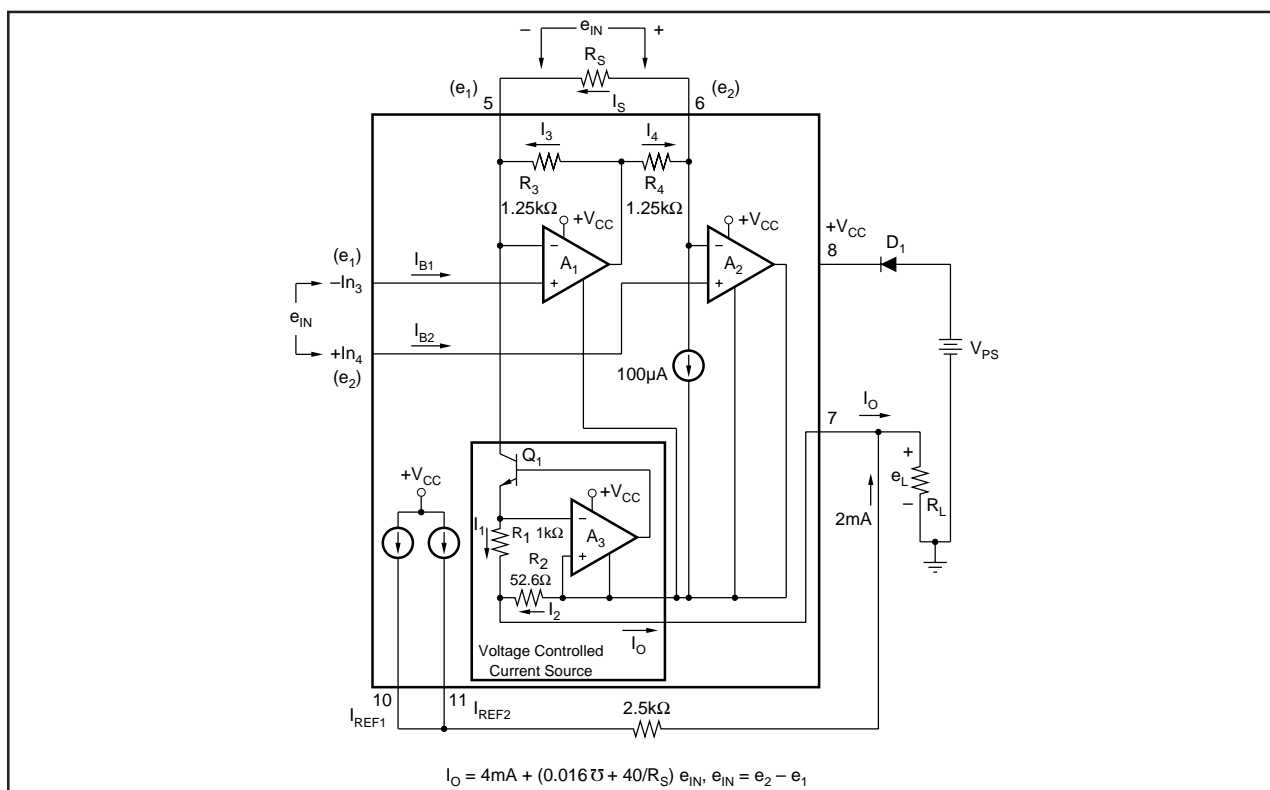

FIGURE 1. Simplified Schematic of the XTR101.
A simplified schematic of the XTR101 is shown in Figure 1. Basically the amplifiers,  $A_1$  and  $A_2$ , act as a single power supply instrumentation amplifier controlling a current source,  $A_3$  and  $Q_1$ . Operation is determined by an internal feedback loop.  $e_1$  applied to pin 3 will also appear at pin 5 and similarly  $e_2$  will appear at pin 6. Therefore the current in  $R_S$ , the span setting resistor, will be  $I_S = (e_2 - e_1)/R_S = e_{IN}/R_S$ . This current combines with the current,  $I_3$ , to form  $I_1$ . The circuit is configured such that  $I_2$  is 19 times  $I_1$ . From this point the derivation of the transfer function is straightforward but lengthy. The result is shown in Figure 1.
The basic connection of the XTR101 is shown in Figure 1. A difference voltage applied between input pins 3 and 4 will cause a current of 4-20mA to circulate in the two-wire output loop (through  $R_L$ ,  $V_{PS}$ , and  $D_1$ ). For applications requiring moderate accuracy, the XTR101 operates very cost-effectively with just its internal drive transistor. For more demanding applications (high accuracy in high gain) an external NPN transistor can be added in parallel with the internal one. This keeps the heat out of the XTR101 package
7. It is recommended that a reverse polarity protection diode ( $D_1$  in Figure 1) be used. This will prevent damage to the XTR101 caused by a momentary (e.g., transient) or long term application of the wrong polarity of voltage between pins 7 and 8.